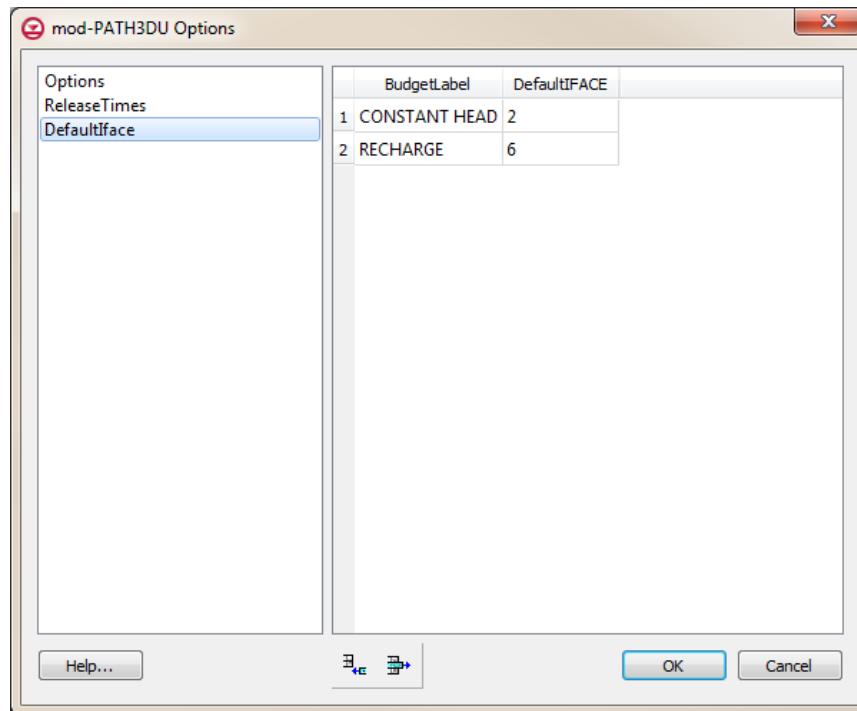

Figure 6 Default Iface values.
1. Select “DefaultIface” from the list on the left (Figure 6).
This table (Figure 6) is how default IFACE values are specified. Notice there are two rows listed in the table, one for *CONSTANT HEAD* and one for *RECHARGE*. The names correspond to the names found in the cell to cell flow (CCF) file. GMS adds these two items automatically with all new mod-PATH3DU simulations. If these types of boundary conditions were not being used, mod-PATH3DU would ignore the default IFACE values listed in the table, so it would not be necessary to delete them.